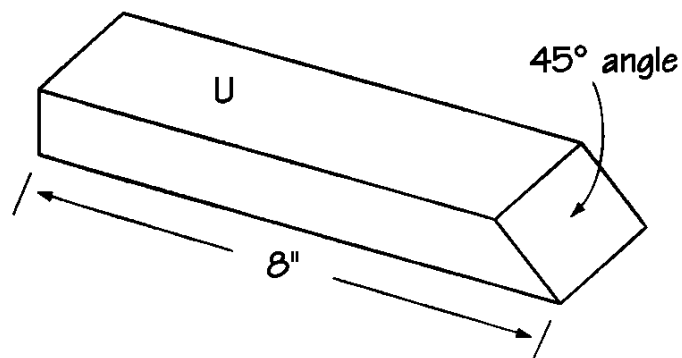

Figure 13
1. Cut two top supports (U) from 2 x 4 pine, each measuring 8" long.
2. Miter one end of each of the two top supports (U) at a 45-degree angle, as shown in *Figure 13*.